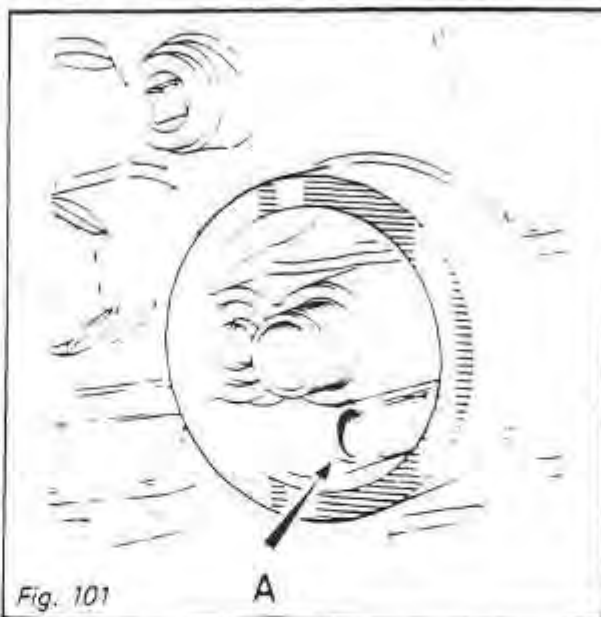

Fig. 101
Fit and tighten the cylinder block drain plugs and new oil filter (after injecting some oil through hole (A) to prime oil pump) (Fig. 101)